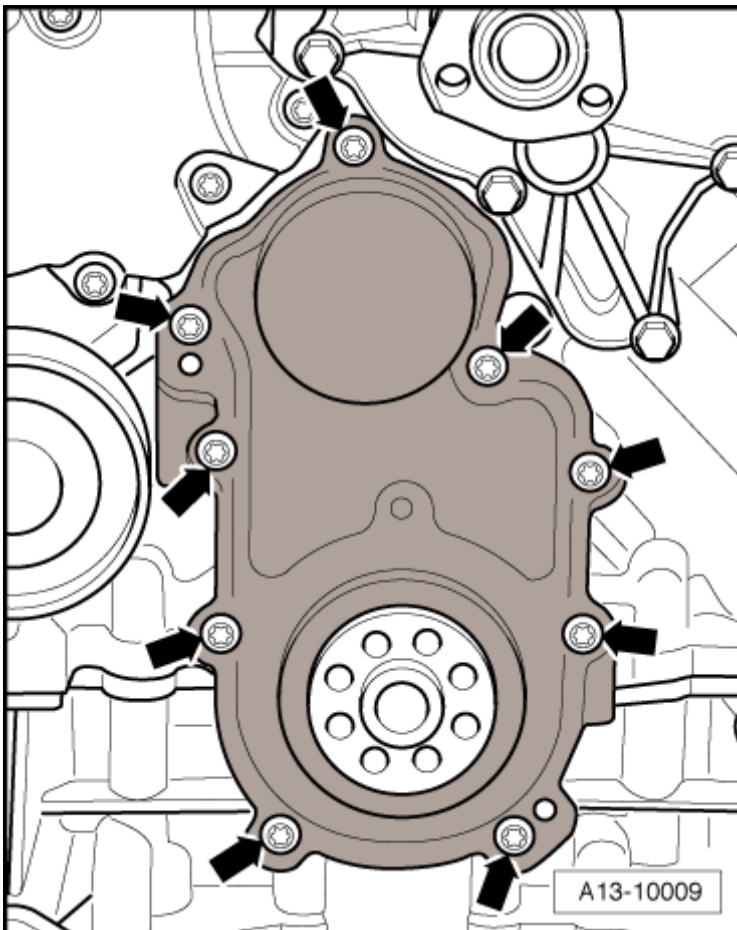

Fig. 16: Identifying Front Sealing Flange Bolts -Arrows-
- Tightening specification and sequence, refer to **Fig. 16**
- Tightening specification, refer to item 1: **COOLANT PUMP, COOLANT THERMOSTAT AND CONNECTING PIECE OVERVIEW**